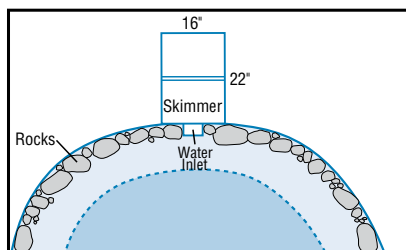

Figure 2
- 1 Once placement has been determined, a 16" x 22" hole with the bottom at 14" below water line can be excavated (figure 2).